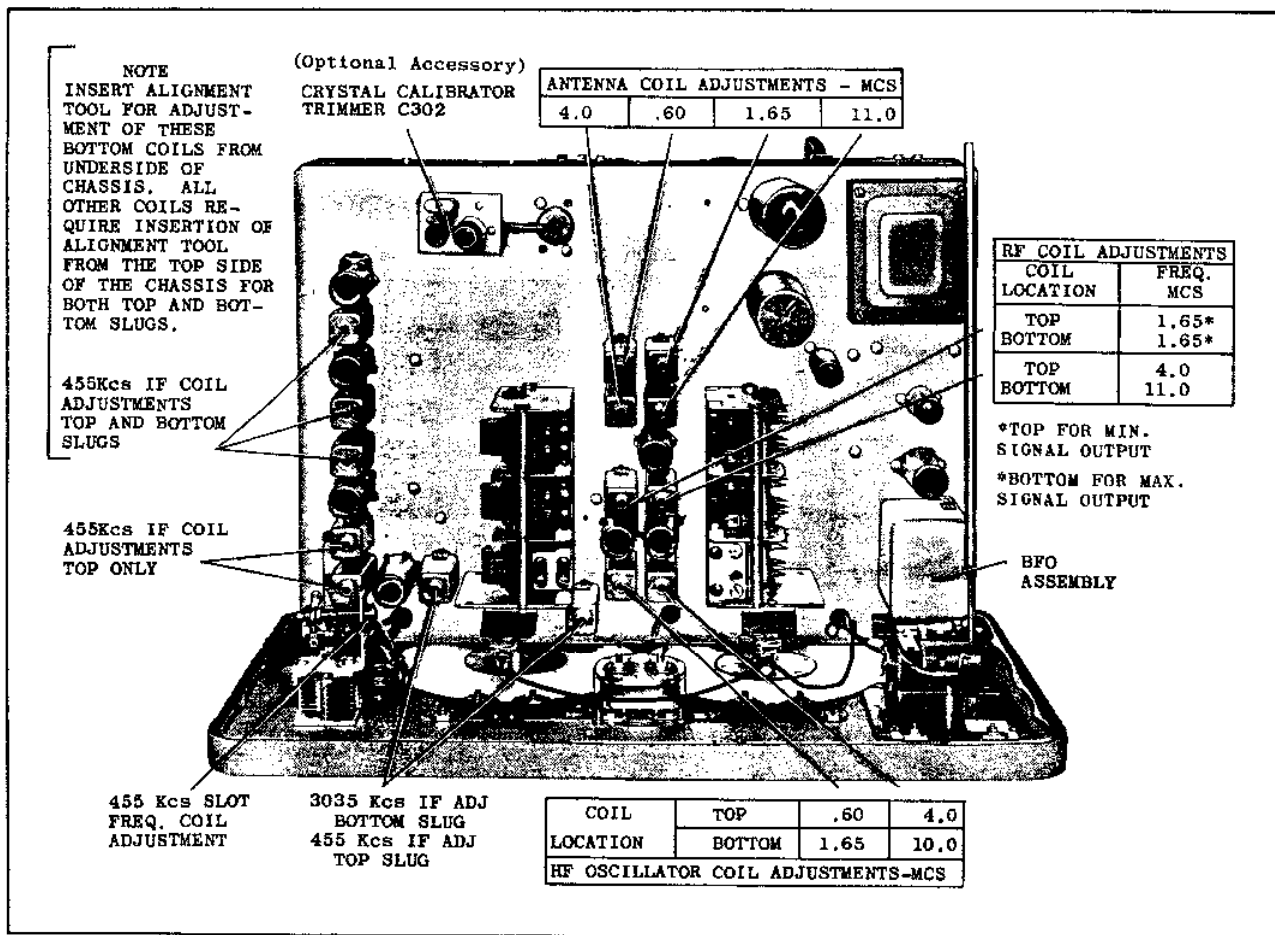

Figure 9. Top View of Chassis
2. All Antenna, RF, and Oscillator coil adjustments are made from the top side of the chassis at the specified frequencies as shown in figure 9.